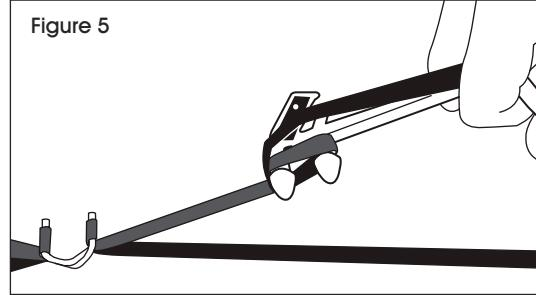

Figure 5
2. Pull tool to desired level of tension. (See Figure 5)